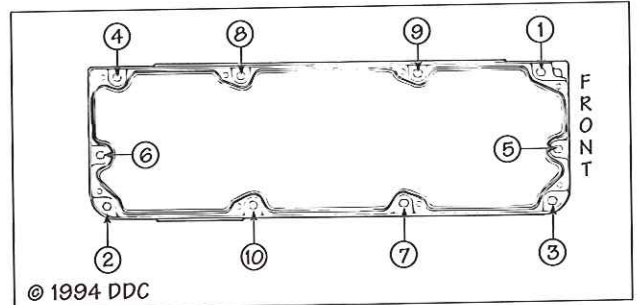

FIG. 41
4. Tighten the ten rocker cover base hold-down bolts to 25 lb.-ft. (35 N·m) torque using the tightening sequence shown in Fig. 41. Tighten the bolts in two stages, using half-torque value first.